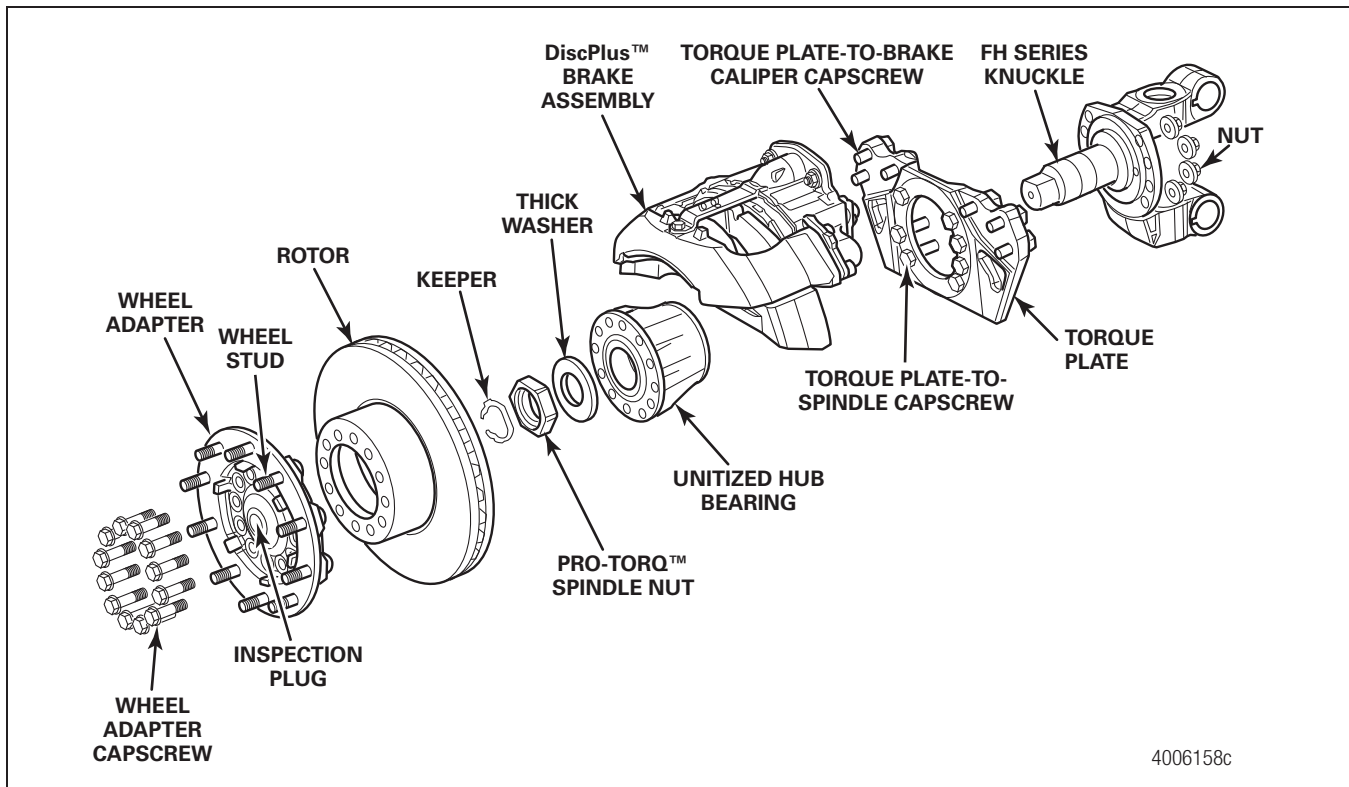

Figure 3.2
1. Verify that the wheel is mounted correctly and all wheel-end fasteners and hardware are tightened to the correct specification. Figure 3.2.